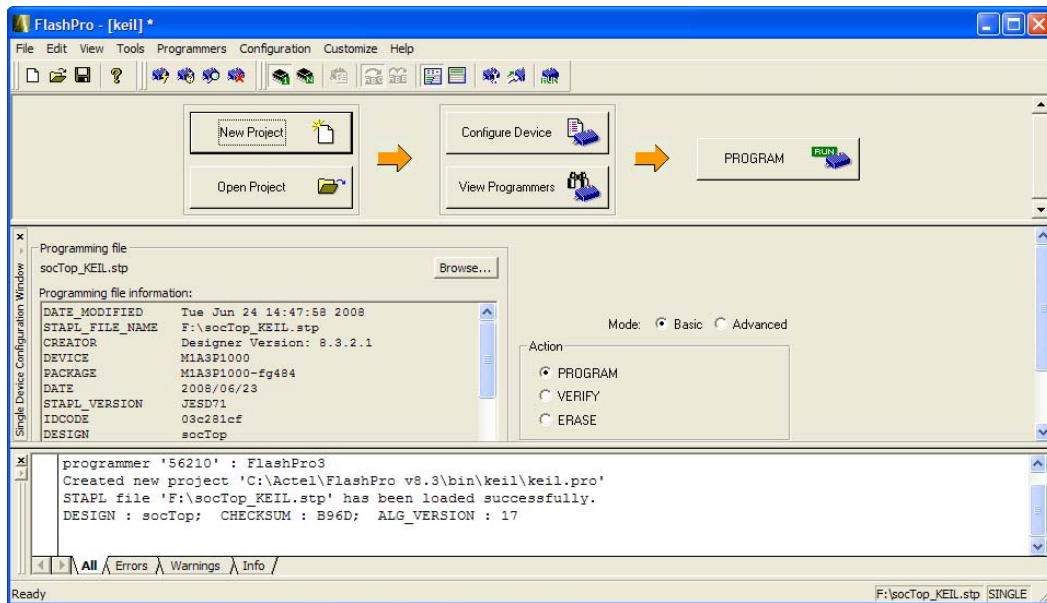

Figure 3 Cortex-M1 image loaded into FlashPro
- 5) Select Browse and find and select the file socTop_KEIL.stp. Figure 3 will be the result.